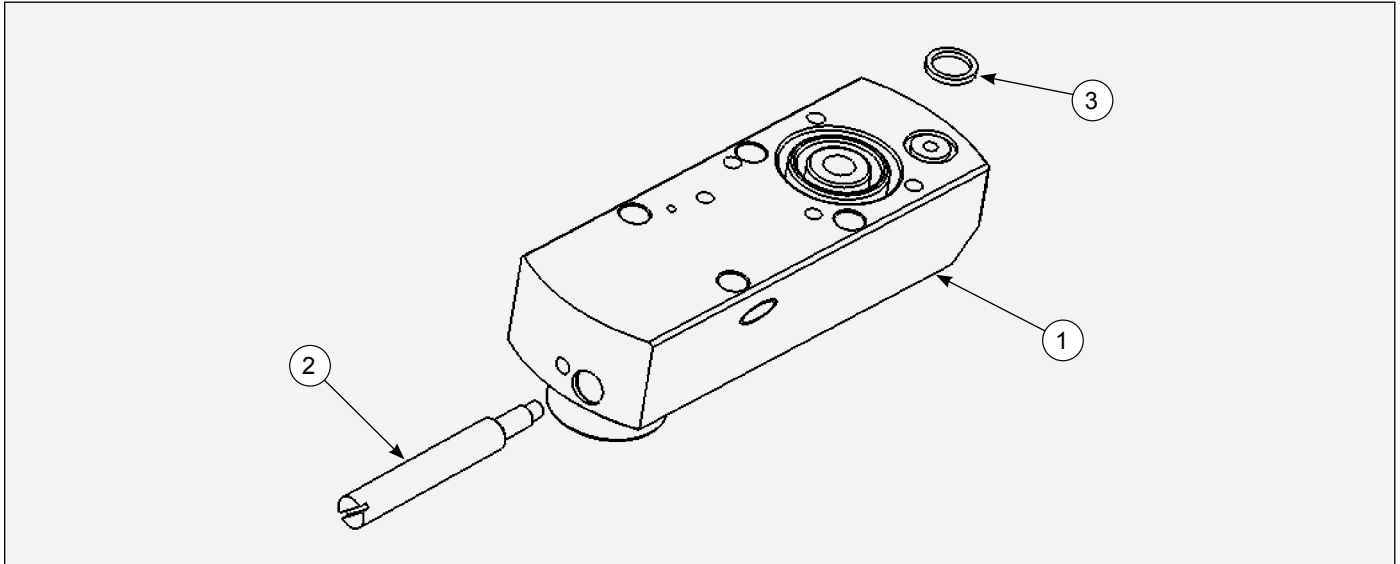

Figure 30: Single Head 90°
**80424-00 SINGLE HEAD 90° - PARTS LIST (Figure 30)**